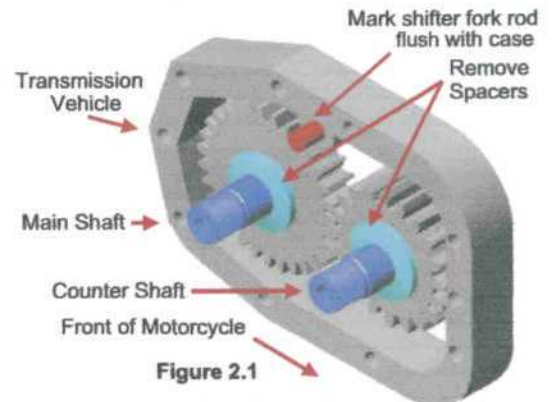

Figure 2.1
- 2.1 Locate the shifter fork rod, mark fork rod flush at transmission case and pull out 1/4" only. Figure 2.1
- 2.3 **IMPORTANT:** Remove stock spacers from main and counter shafts. Spray with silicon remover (Brake-Clean) then using supplied Scotch-Brite pad, clean shafts, new counter and main shaft gears and tapered locking rings (inside and out). Figure 2.1